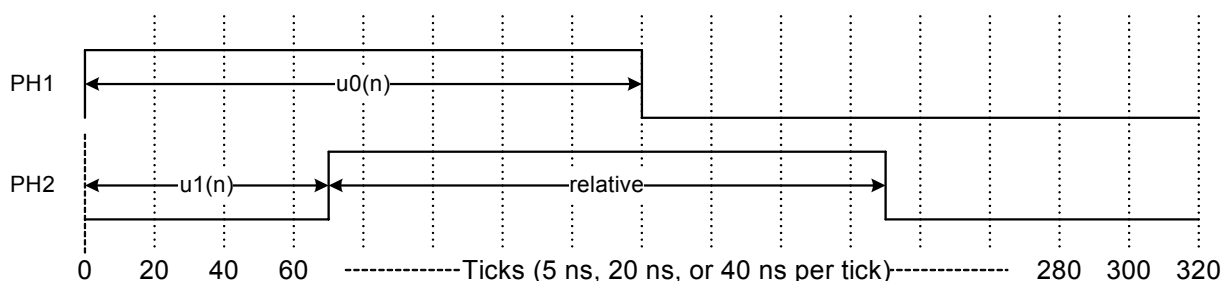

Figure 11.7. DPWM Timing Example—PWM and PSM
The following is a combined example of both pulse-width and phase-shift modulation on phases PH1 and PH2 consecutively. As shown in Figure 11.7 the total period is 320 ticks. For Phase 1 the pulse width is simply modulated by  $u_0(n)$ . For Phase 2 the modulation is slightly different. In this case the pulse width is fixed at 160 ticks of the input clock; however, its position relative to tick time 0 is modulated by  $u_1(n)$ .
- Step 2. Draw the desired timing; see Figure 11.7.